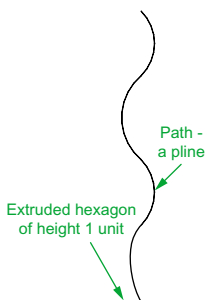

Fig. 18.4 Second example – **Extrude faces tool** – pline for path
2. Change to the **ViewCube/Front** and construct the curved pline (Fig. 18.4).